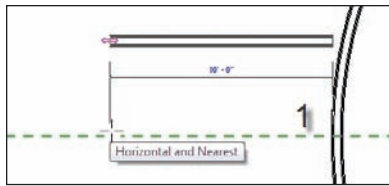

FIGURE 2.34 Drawing corridor walls using an offset can be a great timesaver.
5. To start placing the wall, pick the intersection of the center reference plane and the radial wall, as shown in Figure 2.34.